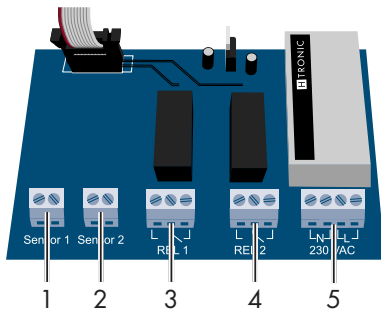
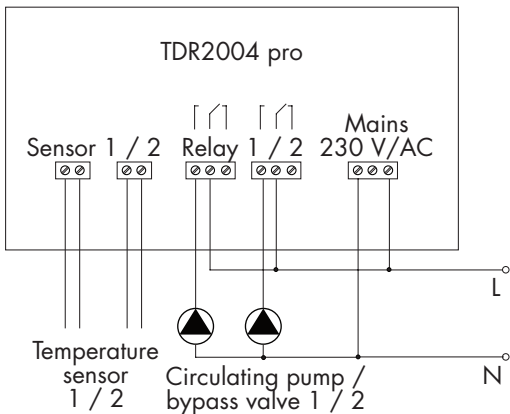

Figure 5 Inner connection
Figure 6 Circuit diagram
10. Connect the phase of the voltage supply to the screw terminal "L" of the voltage connection (Figure 5, item 5).
11. Connect the neutral conductor of the voltage supply to the screw terminal "N" of the voltage connection (Figure 5, item 5).
13. Connect the wires of temperature sensor 1 to one of the screw terminals of the sensor 1 connection each (Figure 5, item 1).
17. Connect the wires of temperature sensor 2 to one of the screw terminals of the sensor 2 connection each (Figure 5, item 2).
- ▶ For circulating pumps / bypass valves with an operating voltage of 230 V/AC, the phase and neutral conductor can be bridged from the 230 V power supply for the TDR2004 pro, see "Figure 6 Circuit diagram" on page 27 and item 5 "Figure 5 Inner connection" on page 24.
21. Connect the power supply to the middle screw terminal of the relay 1 connection (Figure 5, item 3).
22. Connect the phase of the circulating pump / bypass valve 1 to the left screw terminal of the relay 1 connection (Figure 5, item 3).
23. Connect the neutral conductor of the circulating pump / bypass valve 1 to the screw terminal "N" of the voltage connection (Figure 5, item 5).
27. Connect the power supply to the middle screw terminal of the relay 2 connection (Figure 5, item 4).
28. Connect the phase of the circulating pump / bypass valve 2 to the left screw terminal of the relay 2 connection (Figure 5, item 4).
29. Connect the neutral conductor of the circulating pump / bypass valve 2 to the screw terminal "N" of the voltage connection (Figure 5, item 5).